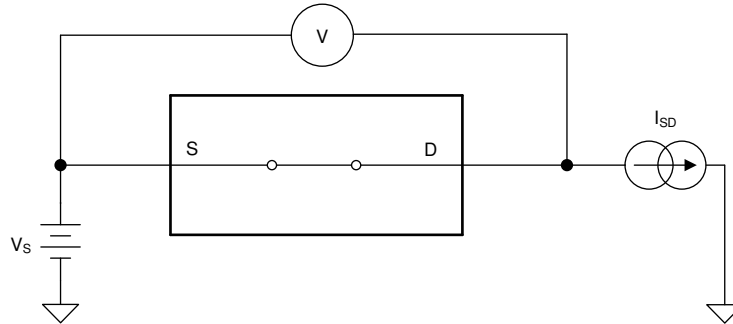

图 7-1. On-Resistance Measurement Setup
The on-resistance of a device is the ohmic resistance between the source (S) and drain (D) pins of the device. The on-resistance varies with input voltage and supply voltage. The symbol  $R_{ON}$  is used to denote on-resistance. The measurement setup used to measure  $R_{ON}$  is shown in 图 7-1. Voltage (V) and current ( $I_{SD}$ ) are measured using this setup, and  $R_{ON}$  is computed with  $R_{ON} = V / I_{SD}$ :